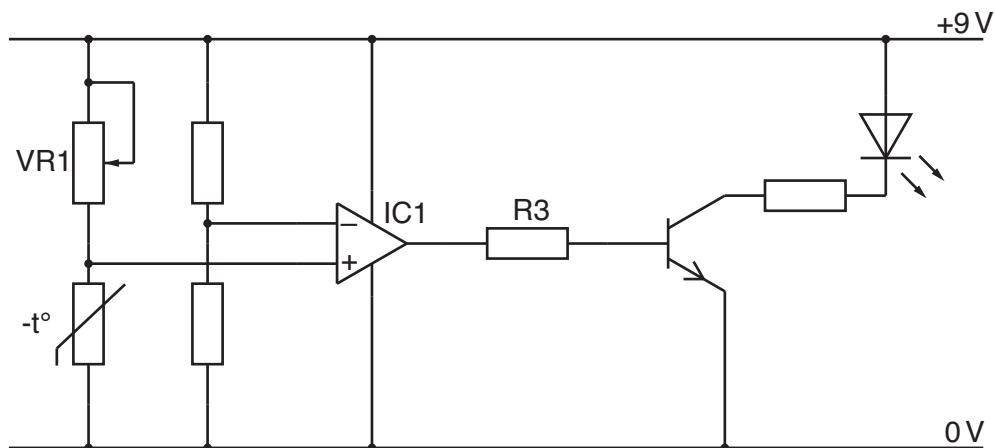

Fig. 6
- (ii) The comparator circuit for the frost monitor is shown in Fig. 6.